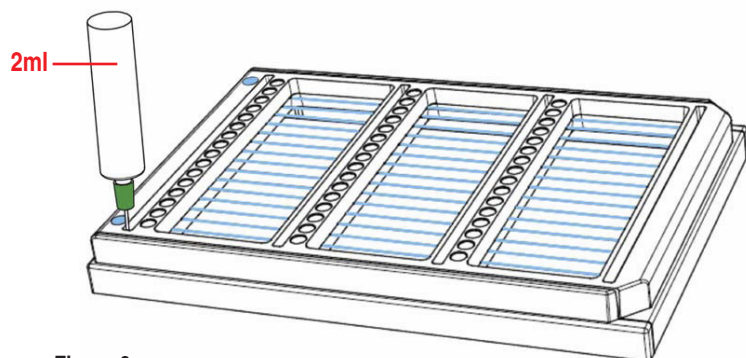

Figure 6
6. Break each of the 16 capillaries in the first long trough #1 with the 2ml syringe and flat green nozzle for capillary cleaving. (Figure 6).